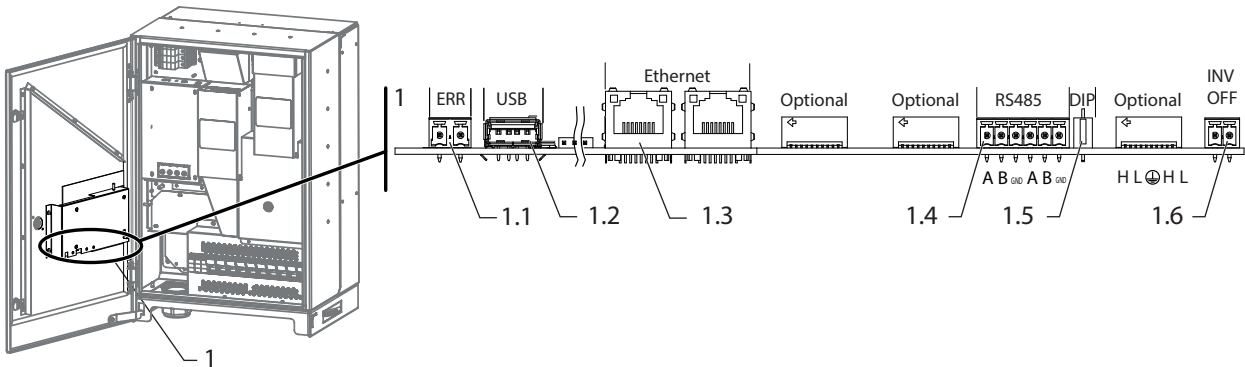

Figure 34: Communication circuit board: Connection and assignment of the interfaces
1. Connect the connection cables to the corresponding connection terminals (see Figure 34 on page 26).
- ☞ Only activate the terminating resistor on the communication circuit board of the terminal unit using the DIP switch. (See Figure 34 on page 26)